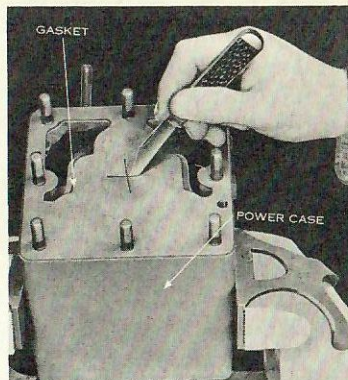

FIG. 28-1
4. Slit gasket with knife as shown in Fig. 28-1.